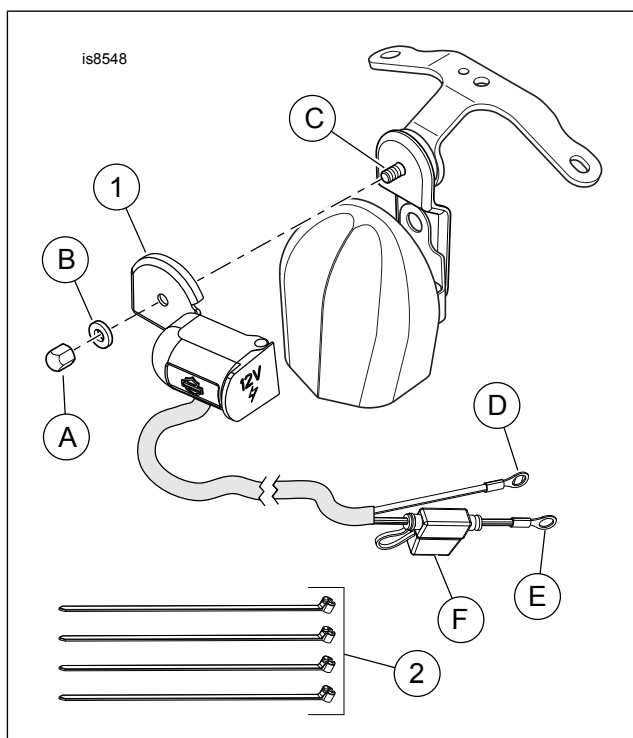

Figure 2. Service Parts: 12 Volt Power Port, Horn Mount
See Figure 2 and Table 1.
1. See Figure 2. Remove acorn nut (A). Remove washer (B). Save hardware for installation.
2. Slide power port (1) onto stud. The bracket is designed to nest over the existing horn bracket.
8. **2006 and later Dyna models:** See Figure 2. Open fuse holder (F). Remove fuse. Route ring terminals (D and E) and fuse holder through opening into battery compartment. Install fuse. Cover fuse.
9. Secure harness with cable straps (2).